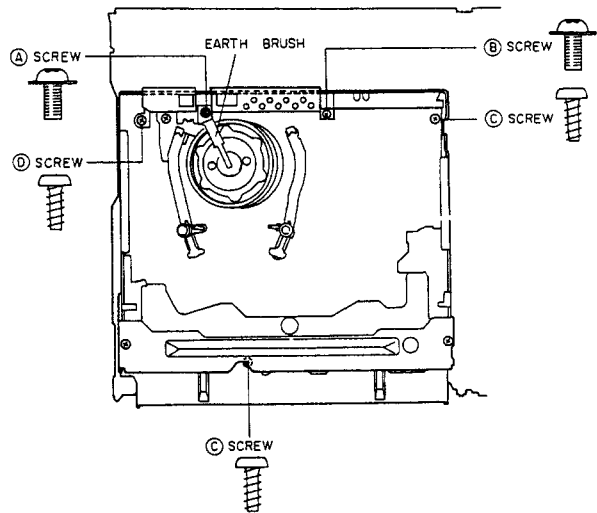

Fig. 3-24
- 1) Remove the (A) screw and remove the EARTH BRUSH as shown in Fig. 3-24.
- 3) Remove the two (C) screws from the MECHA. FRAME as shown in Fig. 3-24.